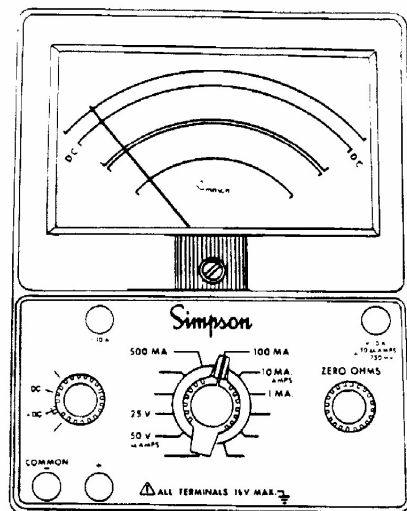

FIGURE 4-11. JACKS AND SWITCH POSITIONS FOR MEASURING DIRECT CURRENT
- Set the function switch at +DC (Figure 4-11).